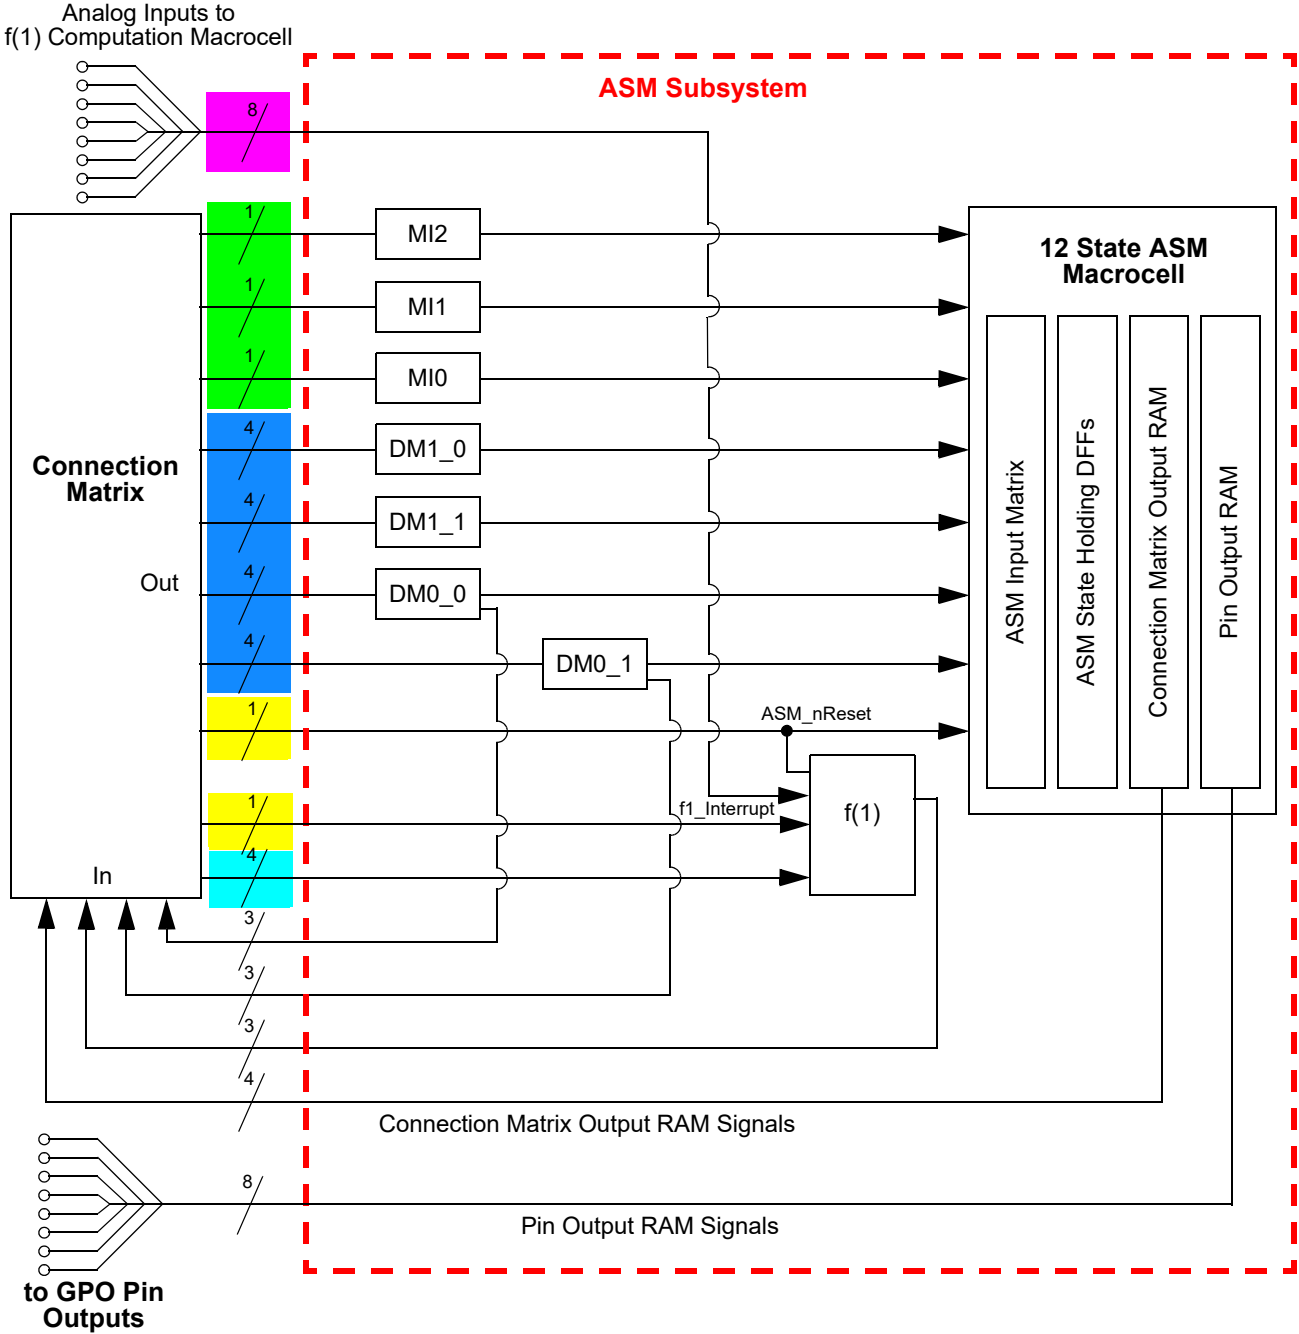
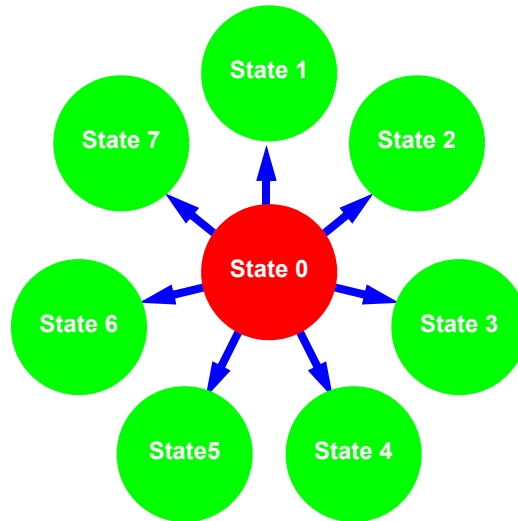
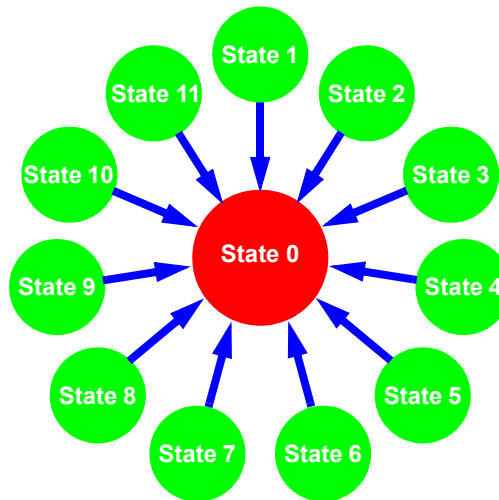

Figure 92: ASM Subsystem Input Signals
Figure 93: Maximum 7 State Transitions out of a Given State
Figure 94: Maximum 11 State Transitions into Given State
The ASM Subsystem has a total of 25 digital input signal lines, as shown in Figure 92, which all come from the Connection Matrix outputs. Of these 25 input signals, 3 are user selectable inputs going directly from the Connection Matrix to the three Matrix Interface (MI) macrocells. There are a total of 16 input signals that go to the DMx macrocell, four per macrocell. There is 1 ASM\_nReset input that is for driving a state transition in both the ASM macrocell and the f(1) Computation Macrocell to an Initial/Reset state. There are 4 digital input signals coming from the Connection Matrix to the f(1) Computation Macrocell. There is also 1 dedicated Interrupt input to the f(1) Computation Macrocell that will halt any active operations and transfer control back to the ASM macrocell. Each of the 25 input signals are level sensitive.
There are a total of 16 digital input signals to the ASM Subsystem which are inputs directly to the DM macrocells. These 16 signals are shown in Figure 92, highlighted in blue. While there are 4 input signals coming from the Connection Matrix and going to each DMx\_x macrocell, there is only 1 output signal from each of these macrocells, which goes directly to the ASM macrocell. There are also 3 signal lines that come directly from the Connection Matrix and go to the three Matrix Interface (MI) macrocells which can drive state transitions. These signals are shown in Figure 92, highlighted in green. This sets an upper bound on the number of transitions that the user can select going **out of** a particular state to be 7, shown in Figure 93. There is no limitation on the number of unique transitions that can be supported going into a particular state, the user can select to have transitions going from a state to all other states, shown in Figure 94. Each of these input signals to the ASM macrocell is level sensitive, and active high. A high level input will trigger a state transition.
There are a total of 8 analog inputs coming from various pins which can be muxed into the positive input for the f(1) Analog Comparator inside the f(1) Computation Macrocell. These 8 signals are shown in Figure 92, highlighted in pink. The f(1) Analog Comparator can be re-programmed for analog input source and negative input reference settings. The user selections for both positive input signal and negative reference are included as part of the information stored in the f(1) Command Register Table. This allows the user to make different analog measurements that are state dependent in their analog sources and reference settings.
The ASM macrocell also has a ASM\_nReset input. This input to the ASM macrocell is level sensitive and active low. This signal is shown in Figure 92, highlighted in yellow. An active signal on this input will drive an immediate state transition to the user-defined Initial/Reset state. The user can choose which state within the ASM Editor inside GPAK Designer will be the reset state.
There is also 1 dedicated f1\_Interrupt input to the f(1) Computation Macrocell that will halt any active operations and transfer control back to the ASM macrocell. This signal is shown in Figure 92, also highlighted in yellow.